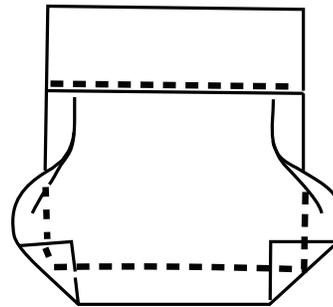
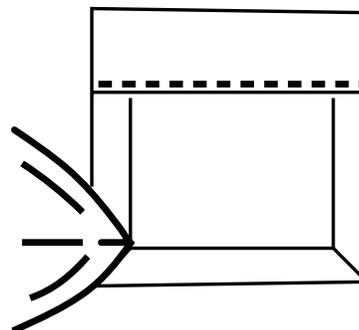

Figure 2
Figure 3
4. To miter the corners of the pocket, fold the bottom corners diagonally to line up stitching lines and press (Figure 2). Trim points to 1/4-in. seam allowance. Turn side seam allowance up and press to form mitered corners (Figure 3).